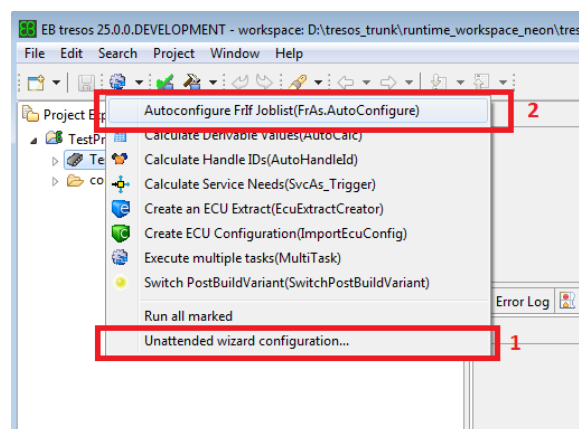

Figure 4.13. Configuring and Launching the Unattended Wizard
4. Select the menu item **Autoconfigure FrIf Joblist(FrAs.AutoConfigure)** as depicted in Figure 4.13, “Configuring and Launching the Unattended Wizard” if you want to launch the automatic creation of Job Triggers for the selected project.